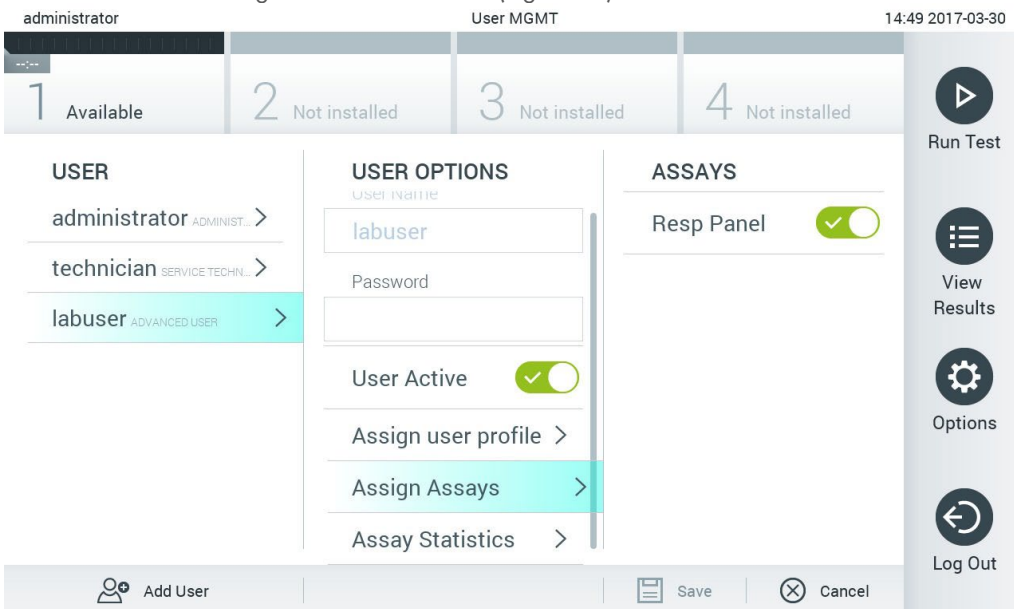

Figure 62. Assigning assays to users.
- **Assign Assays:** Allows defining the assays from the assay database that the user is permitted to run. Select the assays from the list on the right of the content area (Figure 62)